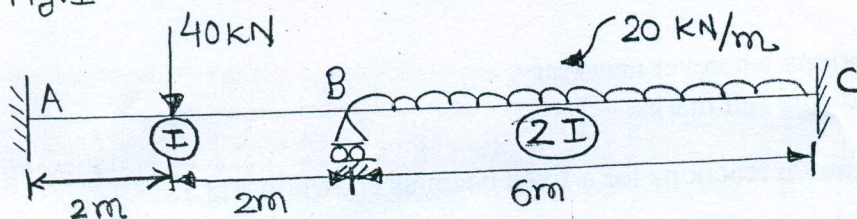

Fig.2
- Q-2 [A] Determine the supports moments using Slope Deflection Method for the frame as shown in Fig.2 and draw S.F. and B.M. Diagram. [7]
**Q.2 (A)** Determine Final moments for a continuous beam by slope deflection method as shown in **Fig.2.** 05